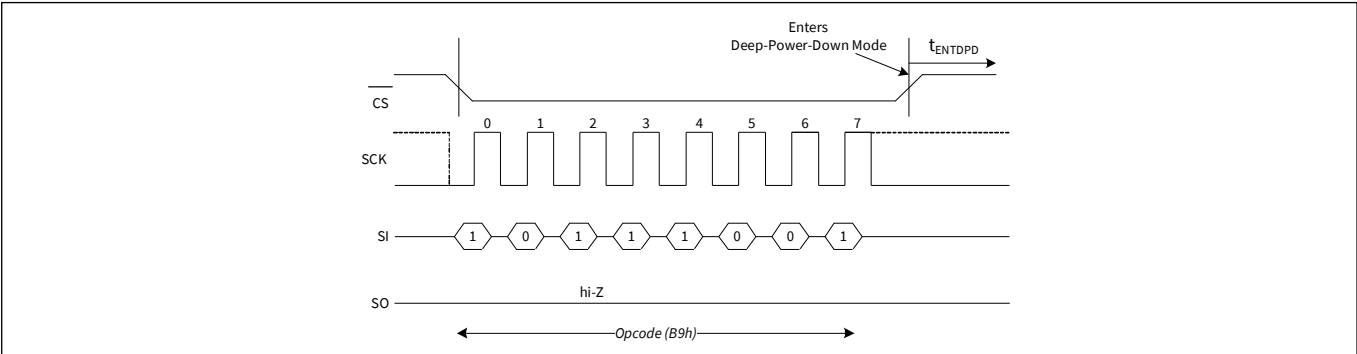
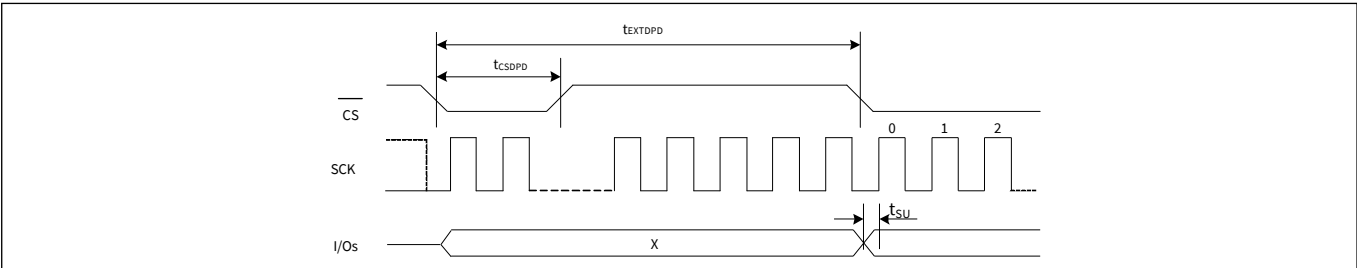

Figure 100 DPD entry in SPI mode
Figure 103 DPD exit in SPI mode
A $\overline{\text{CS}}$ pulse-width of t_{CSDPD} or Hardware reset exits the DPD mode after t_{EXTDPD} time. The $\overline{\text{CS}}$ pulse-width can be generated either by sending a dummy command cycle or toggling $\overline{\text{CS}}$ alone while SCK and I/Os are don't care. The I/Os remain in hi-Z state during the wakeup from deep power down. Refer to Figure 100 for DPD entry and Figure 103 for DPD exit timing.
- The timing details shown in the Figure 100 are applicable as is in DPI and QPI modes.